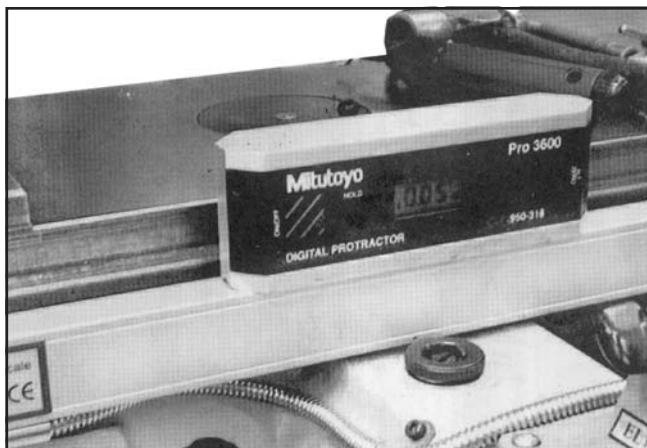

Figure 23. Scale mounting location.
1. Mount the scale parallel and square to the slide, shown in **Figure 23**. Testing for parallel can be done with a dial indicator or a precision level.